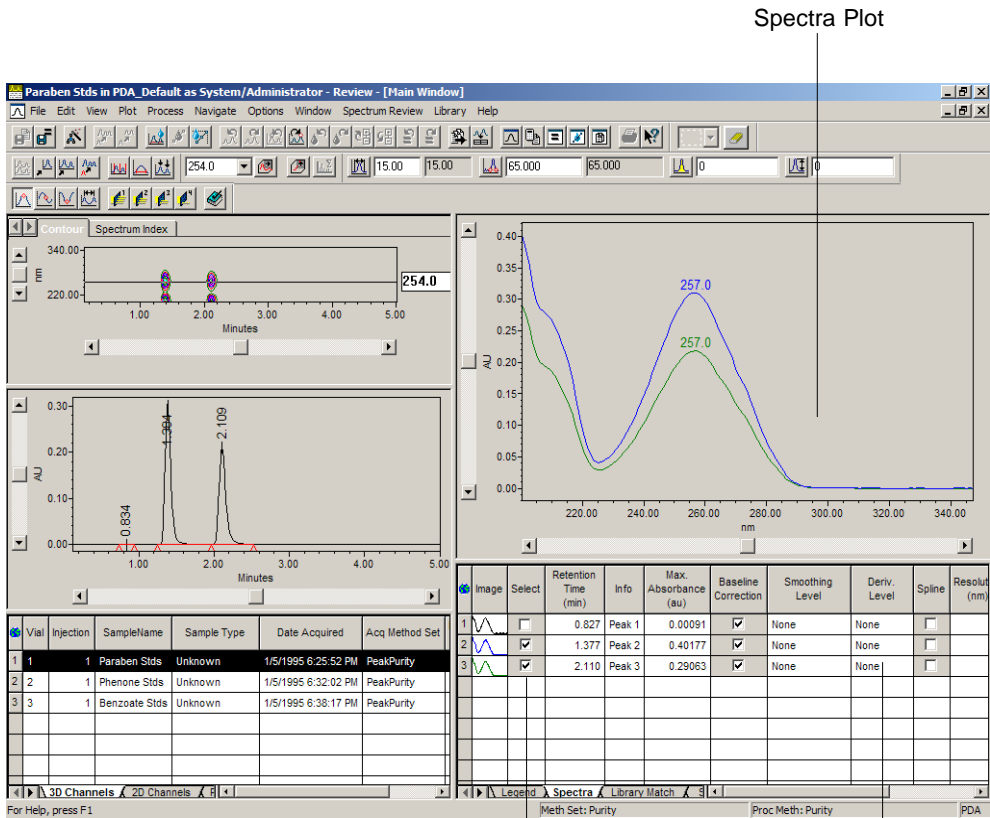

Figure 4-7 Spectrum Review with Spectra Selected
1. In the Spectra table, make sure that the check box in the Select column is only selected for the two main peaks as shown in Figure 4-7. The two spectra appear in Spectrum Review.